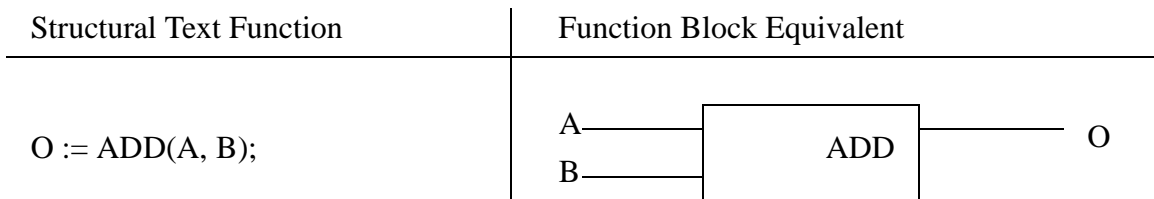

Figure 21.3 A Simple Function Block
The basic functions used in FBD programs are equivalent to the basic set used in Structured Text (ST) programs. Consider the basic addition function shown in Figure 21.3. The ST function on the left adds A and B , and stores the result in O . The function block on the right is equivalent. By convention the inputs are on the left of the function blocks, and the outputs on the right.